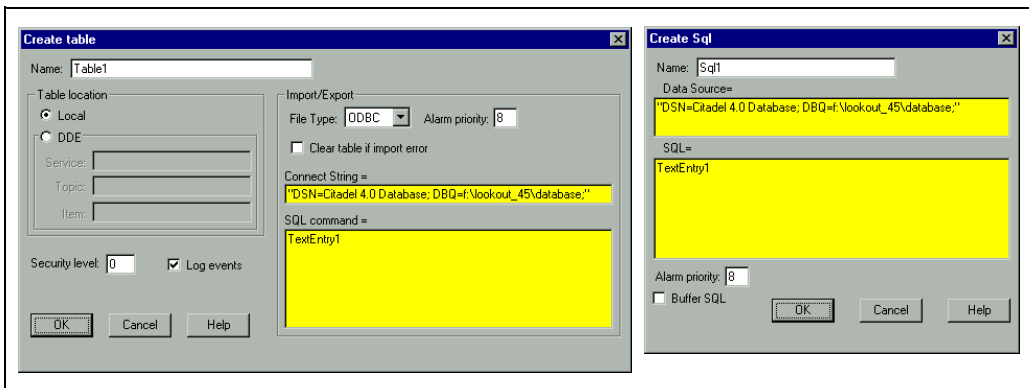

Figure 4. DataTable and SQLExec Object Properties Dialog Boxes
2. Create a DataTable object or SQLExec, set the **Connect String** or **Data Source** to point to your data source and set the SQL Command to the name of your TextEntry object, as shown in Figure 4.